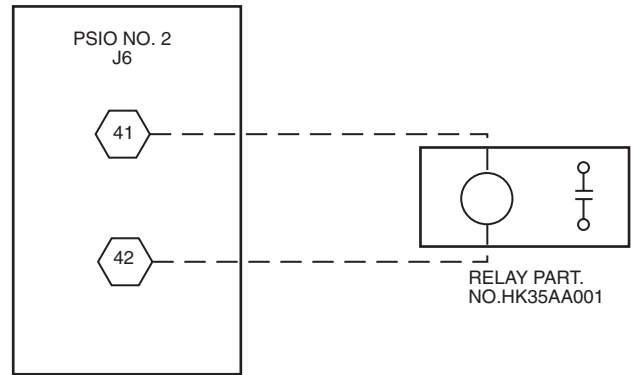

Fig. 95 — Timed Discrete Output
- Timed discrete output (Fig. 95)